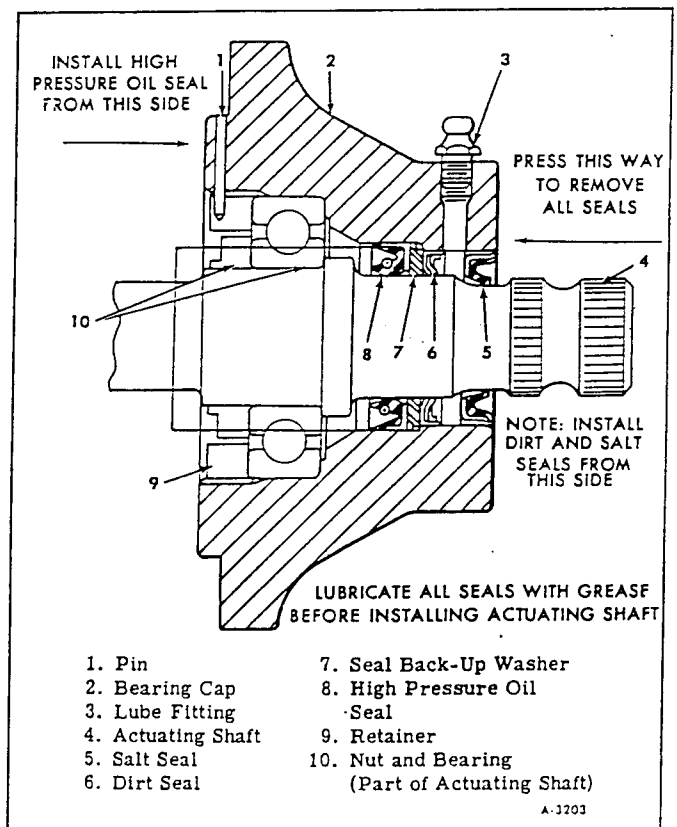
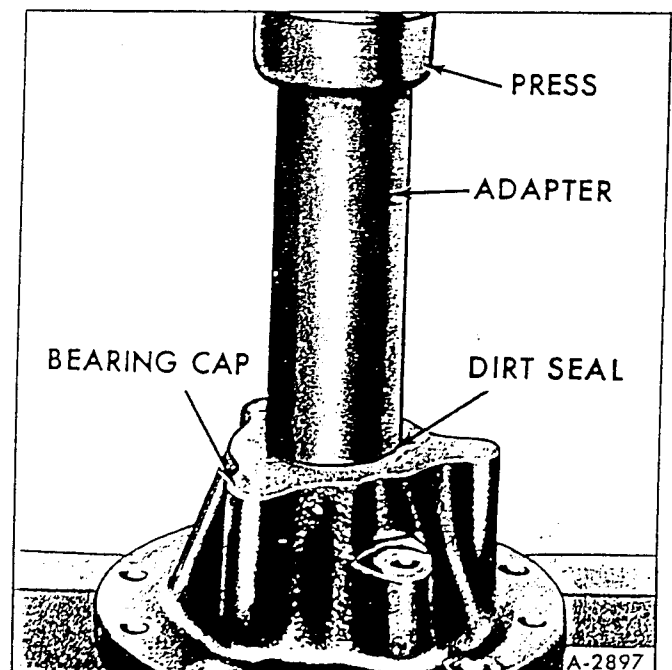

Figure 19 – Removing Seals from Bearing Cap
Figure 31 – Installing Dirt Seal in Bearing Cap
oil seal, seal back-up washer, dirt seal, and salt seal out of bearing cap from direction shown in figure 19.
6. Install back-up washer in bearing cap with undercut positioned as shown in figure 19.
b. Position bearing cap on a press and evenly install dirt seal (fig. 31) (with lip out) from direction shown in figure 19 until it rests against the back-up washer.
d. Turn bearing cap over and evenly install high pressure oil seal (figs. 19 and 30) until it rests against back-up washer.